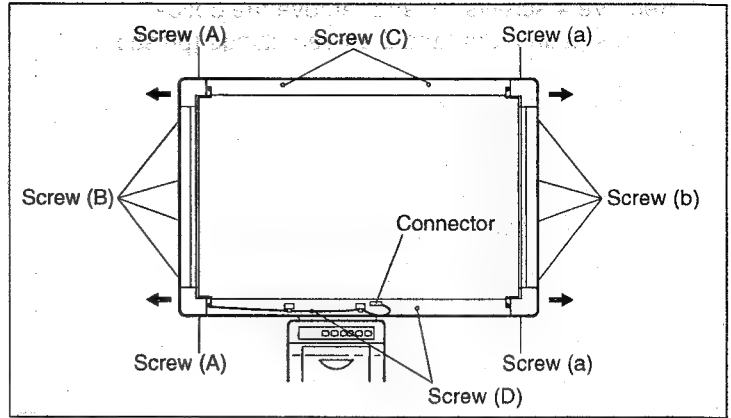

Fig. 7-13
- 2) Remove the left and right frame covers (See 7.2.2, Fig. 7-13).